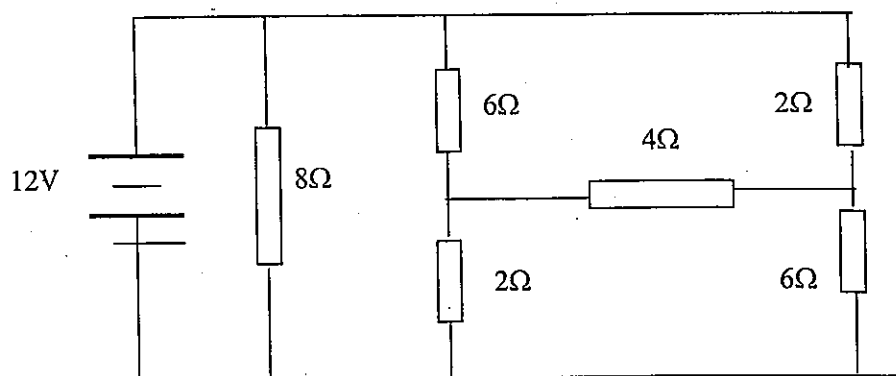

Fig Q2
- (a) the time constant for the coil; (2)
- (b) the final steady state current for the coil; (2)
- (c) the instantaneous value of the current  $1\text{ms}$  after switching on; (4)
- (d) the time taken for the current to reach  $50\text{mA}$ ; (3)
- (e) the energy stored when the current is  $50\text{mA}$ ; (3)
- (f) the time taken for the current to reach its final steady state value. (2)
2. For the circuit shown in Fig Q2, calculate EACH of the following:
- (a) the current supplied by the  $12\text{V}$  battery; (6)
- (b) the potential difference across the  $4\Omega$  resistor; (4)
- (c) the power dissipated in each of the  $6\Omega$  resistors. (6)